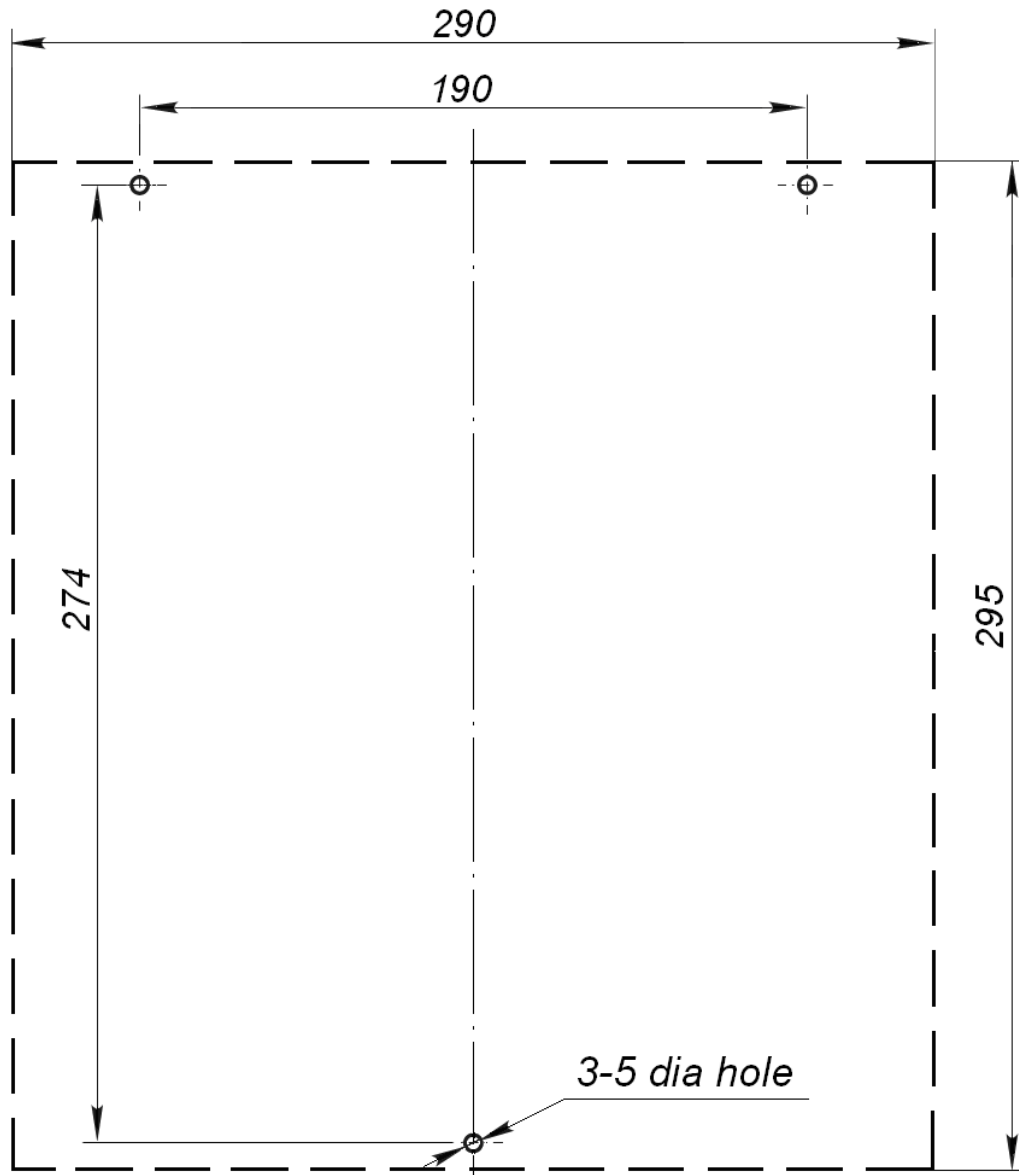

Figure 6 Hole pattern for the CU mounting
- mark out the holes for wall mounting of the control unit (8) as shown in Fig. 6;
- mount the CU (8) using two screws and fix it with the bottom screw to prevent accidental pulling off.